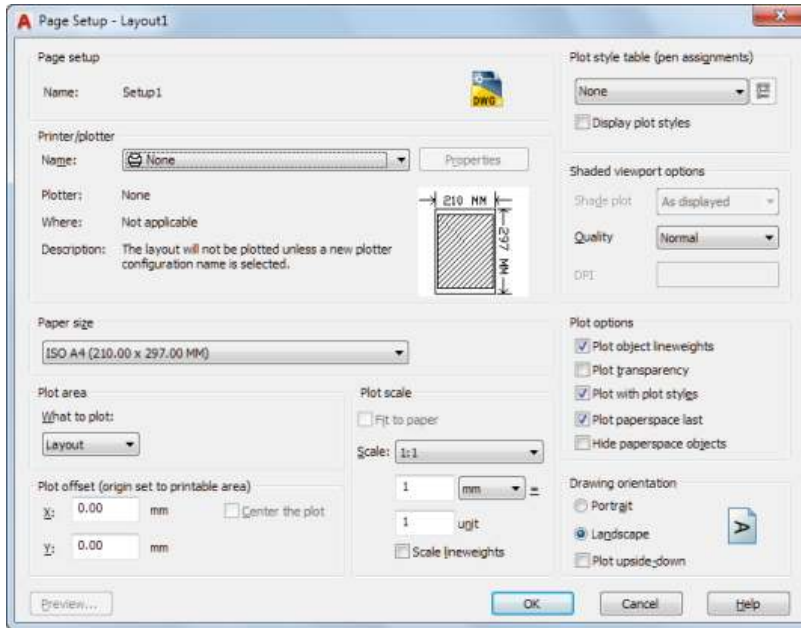

Figure 33 - Layout Page Setup Dialog Box
To modify the layout, right click on the Layout tab and click **Page Setup**. This will bring up the Page Setup dialog box shown in Figure 33. Select the printer **Name** from the dropdown list and then select a **Page Size** and **What to plot**. For this example, choose the **PDF printer**, the **Ledger (17 x 11) paper size** and **Extents** to plot. Leave the **Plot Scale** at 1:1. Set the **Drawing Orientation** to **Landscape**. Click Preview if you wish, then click **OK**.
2. Right click the Layer tab and bring up the **Setup** dialog (Figure 33).